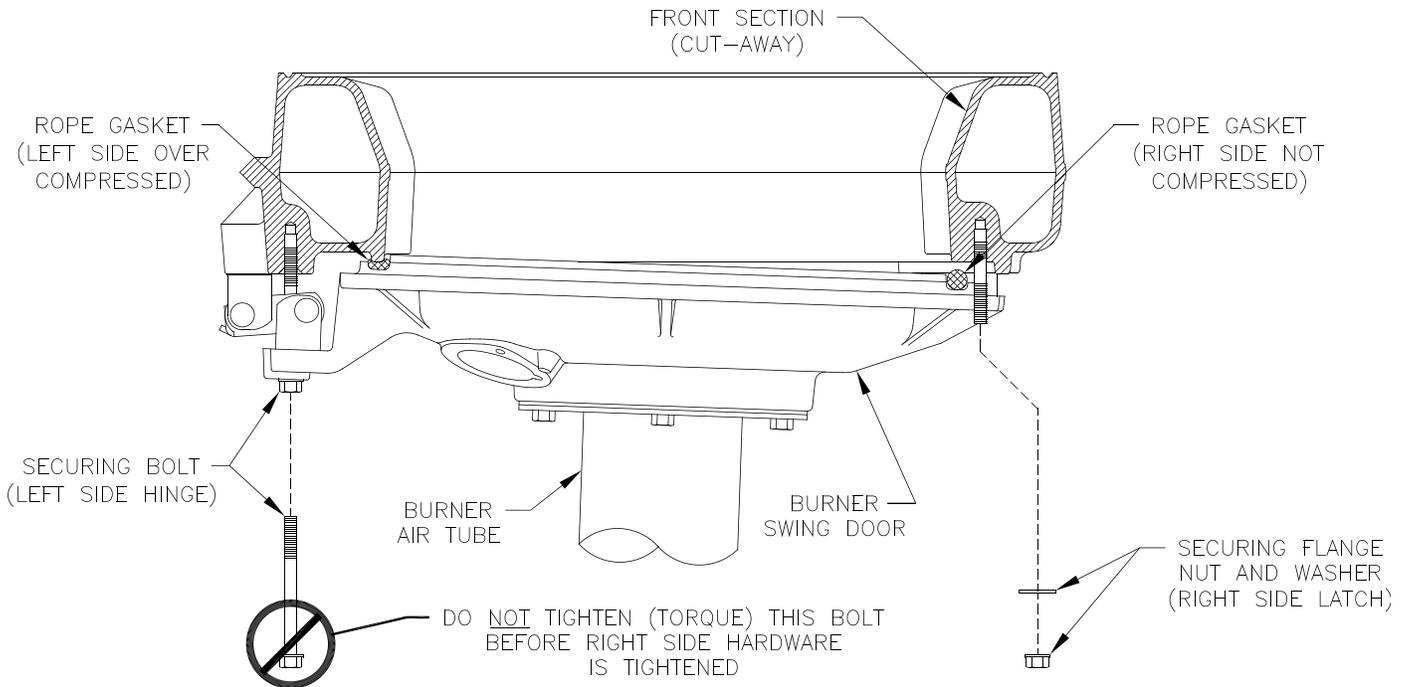

Figure 4-4: Top View - Burner Swing Door Fully Closed but Not Properly Secured or Sealed
Failure to follow the prescribed procedure could cause thread damage to casting or a leak in the door seal. If left side flange bolt is tightened before right side flange nut, right side of door can not be drawn-in to provide an air tight seal, as shown in Figure 4-4. Applying excessive torque will only cause thread damage.
1. Boiler is secured to base with 4 bolts, 2 in front and 2 in rear of shipping skid, see Figure 4-4. Remove all bolts.